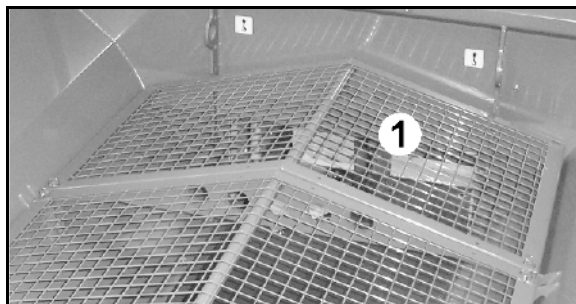

Fig. 30
- Granular fertiliser : Insert the sieve screen (Fig. 30/1) and secure using a lynch pin!